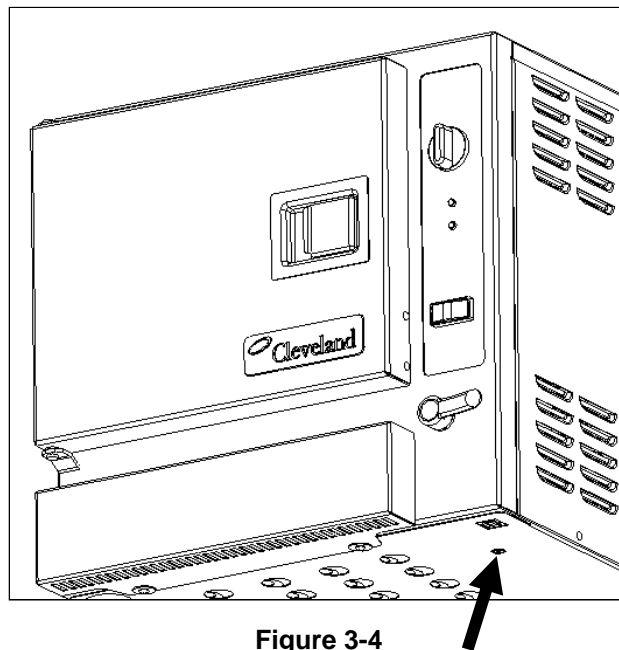

Figure 3-4
- d. Press the High Limit Reset Button located on the bottom of the appliance about 3 inches from the control side and 4 inches from the front side. See Figure 3-4